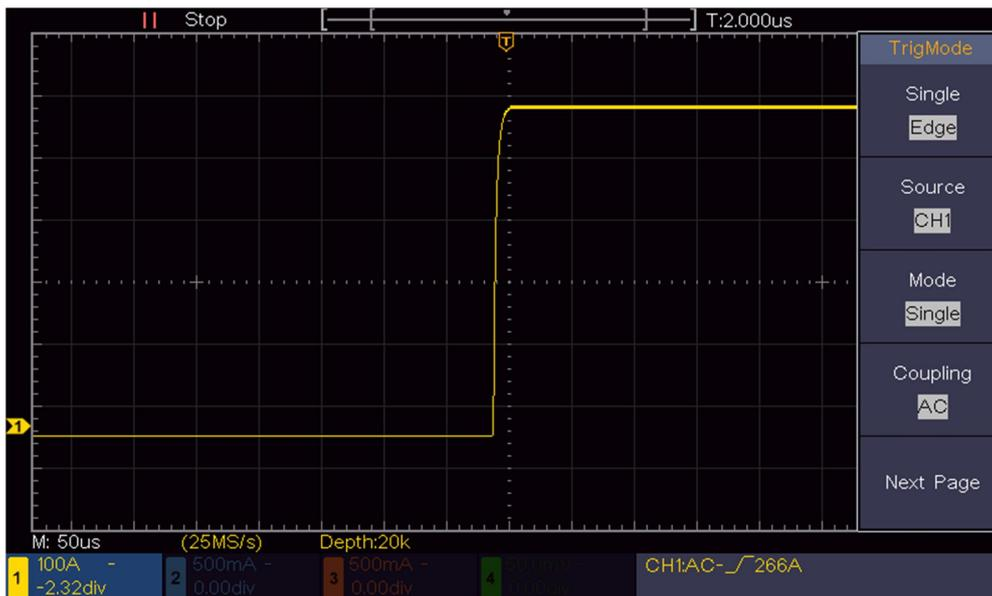

Figure 6-3 Capturing a Single Signal
- (1) Set the probe menu attenuation coefficient to 10X and that of the switch in the probe to 10X (see "*How to Set the Probe Attenuation Coefficient*" on P10).
- (2) Adjust the **Vertical Scale** and **Horizontal Scale** knobs to set up a proper vertical and horizontal ranges for the signal to be observed.
- (3) Push the **Acquire** button to display the right menu.
- (4) In the right menu, select **Acqu Mode** as **Peak Detect**.
- (5) Push the **Trigger Menu** button to display the right menu.
- (6) In the right menu, select **Single** as **Edge**.
- (7) In the right menu, select **Source** as **CH1**.
- (8) In the right menu, select **Coupling** as **DC**.
- (9) In the right menu press **Next Page**, select **Slope** as  (rising).
- (10) Turn the **Trigger Level** knob and adjust the trigger level to the roughly 50% of the signal to be measured.
- (11) Check the Trigger State Indicator on the top of the screen, if it is not Ready, push down the **Run/Stop** button and start acquiring, wait for trigger to happen. If a signal reaches to the set trigger level, one sampling will be made and then displayed in the screen. By using this approach, a random pulse can be captured easily. For instance, if we want to find a burst burr of high amplitude, set the trigger level to a slightly higher value of the average signal level, push the **Run/Stop** button and wait a trigger. Once there is a burr occurring, the instrument will trigger automatically and record the waveform during the period around the trigger time. By turning the **Horizontal Position** knob in the horizontal control area in the panel, you can change the horizontal triggering position to obtain the negative delay, making an easy observation of the waveform before the burr occurs (see *Figure 6-3*).